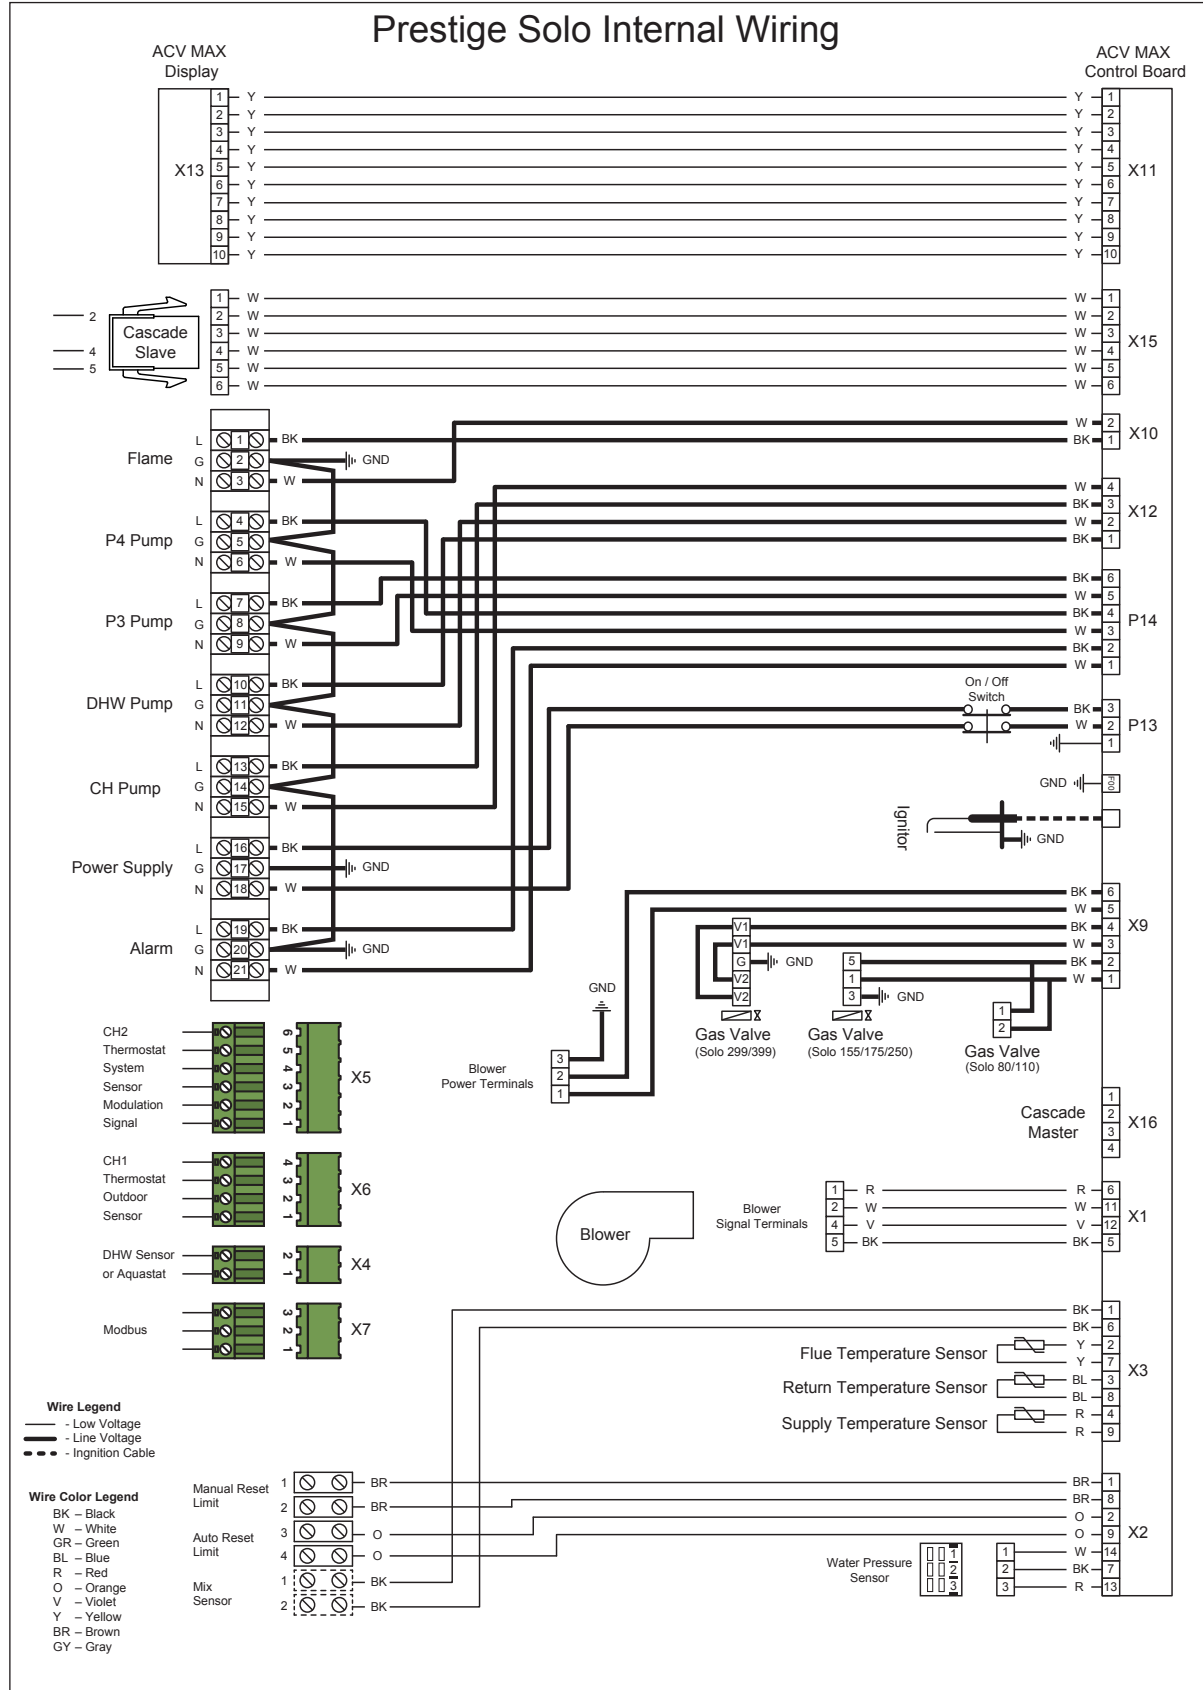

Fig. 21 - Prestige Solo Boiler Factory Wiring
*The low voltage terminals are located at the bottom of the ACVMax control module. The line voltage terminals are located in the lower right corner as shown in Fig. 21 below.*
1. Connect a dedicated 120 VAC/15A service to the line voltage terminals located internally in the lower right corner, as shown in *Fig. 21 below*.
2. Connect the CH circulator wiring to the line voltage terminals located internally in the lower right corner, as shown in *Fig. 21 on the left*. This circulator is typically used to supply heat to the central/space heating loop.
3. Connect the DHW circulator wiring to the line voltage terminals located internally in the lower right corner, as shown in *Fig. 21 on the left*. This circulator is typically used to supply heat to an indirect hot water heater.
4. Connect the P3 circulator wiring to the line voltage terminals located internally in the lower right corner, as shown in *Fig. 21 on the left*. This circulator is typically used to circulate water through the PRESTIGE Solo in primary/secondary piped systems.
5. Connect the P4 circulator wiring to the line voltage terminals located internally in the lower right corner, as shown in *Fig. 21 on the left*. This circulator is typically used as a dedicated circulator to a second space heating zone.